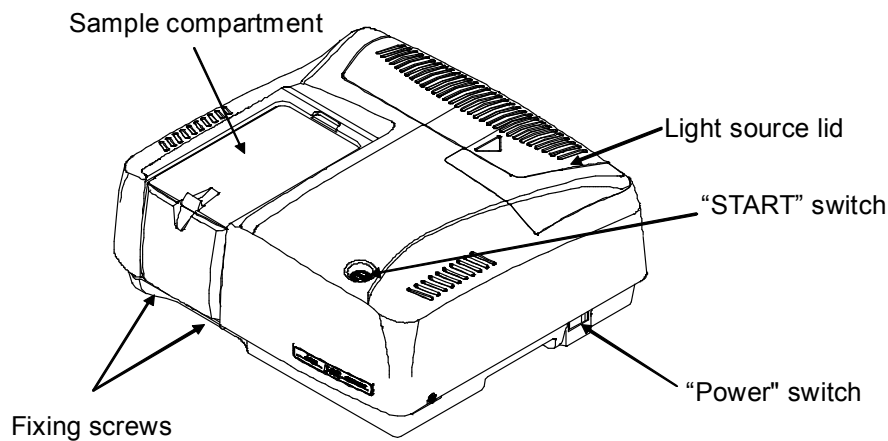
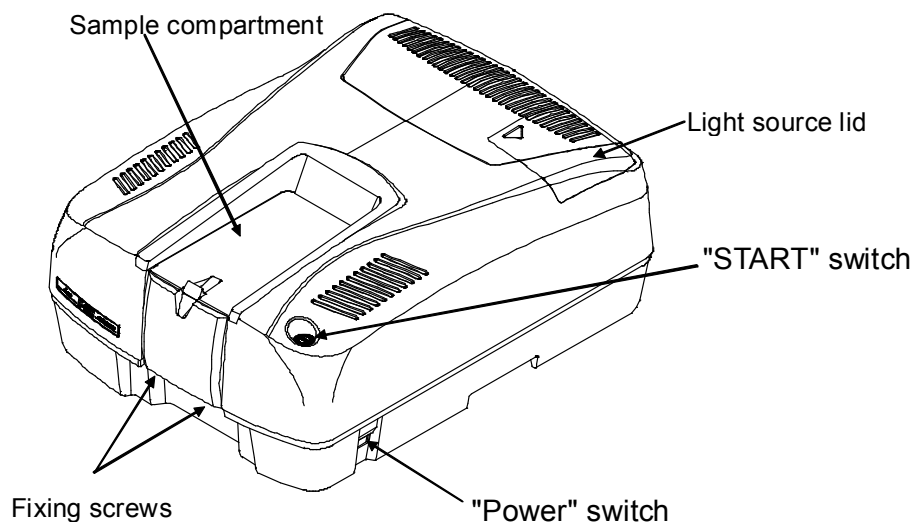

Figure 4.1 V-630 appearance
Figure 4.3 V-650/660/670 appearance
- (1) Removing the standard cell holder
- a) Open the sample compartment lid and loosen the two fixing screws located on the front underside of the sample compartment by hand (see Fig. 4.1 or Fig. 4.3).
- (2) Cleaning the standard cell holder